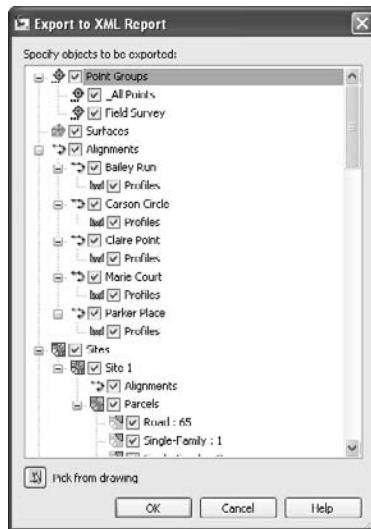

Figure 2.10
5. Click the `Pick from Drawing` button (shown on the bottom left of Figure 2.10), select the lot numbers for 38, 39, and 40, and then press `↵`. When you pick from a drawing, only the selected items are exported.